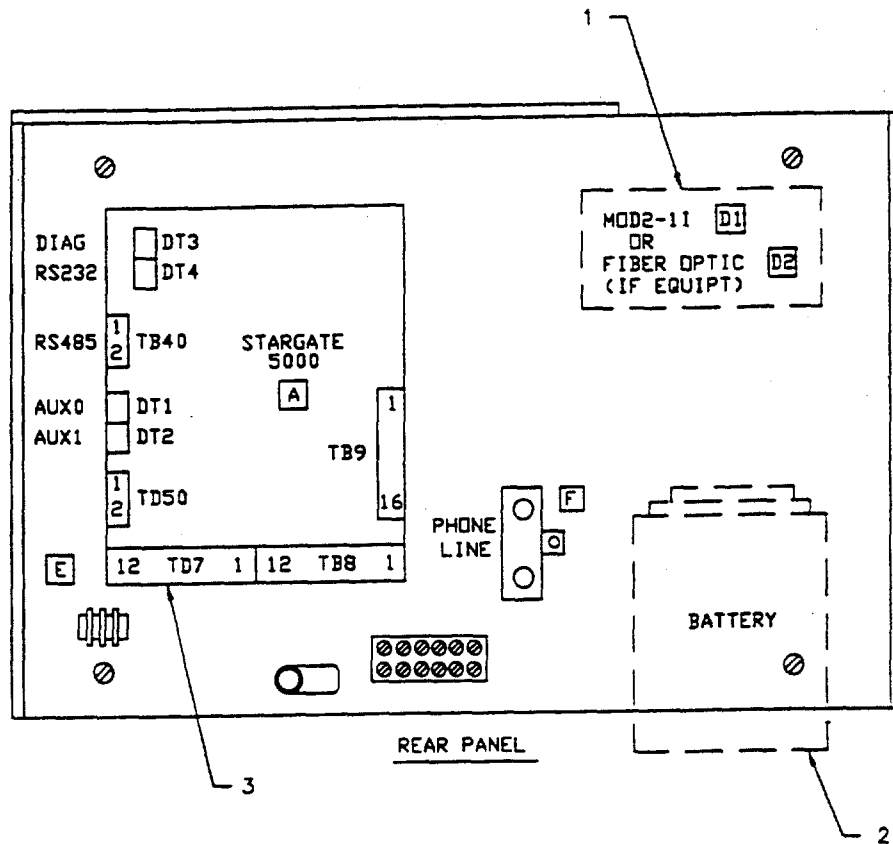

Figure 1-10. Remote Area Data Collector, 12 vdc, 8 Points
**f. Remote Area Data Collector, 12vdc, 8 points, Components (Interior) (See Figure 1-10).**